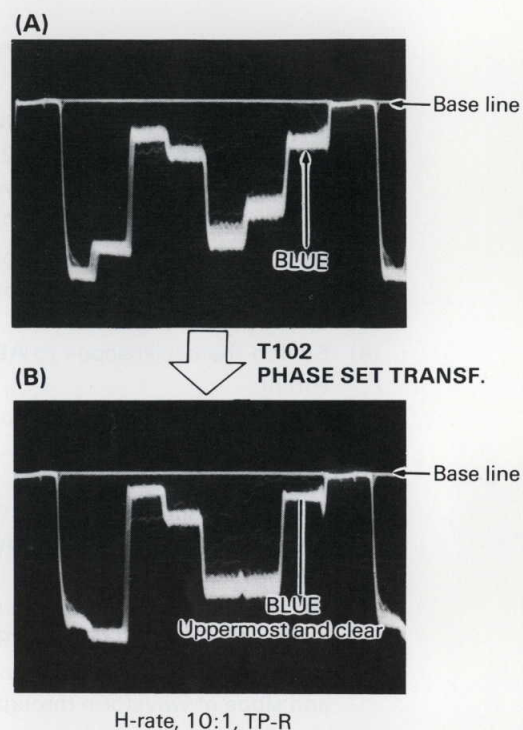

Fig. 4-12-1 Color phase adjustment
- (4) As shown in Fig. 4-12-1, turn C124 PHASE SET TRIMMER to obtain a blue level in an uppermost (along the base line) position as well as a clear waveform, T102 PHASE SET TRANSF. is also used to obtain this waveform.
- (8) Repeat the procedures (3) – (7).
- (9) Set **R504 H LIN.-1 VR** to the original position.
- (10) Shoot the color bar pattern.
- (11) Observing the **TP-R** waveform, turn **C124 PHASE SET TRIMMER** to obtain a blue level in an uppermost (along the base line) position as well as a clear waveform, as shown in **Fig. 4-12-1**.